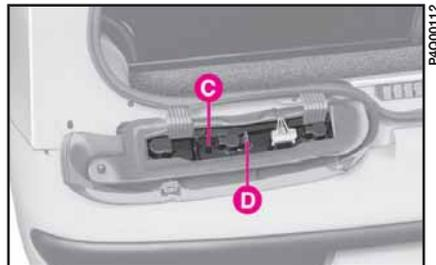

fig. 26
- 2) remove bulb holder **C-fig. 26** releasing clip **D**;